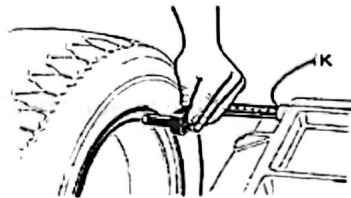

Fig.1
- Move gauge to touch edge of rim (Fig.1), read the value of distance, press **a+** and **a-** to change, set "a" value.